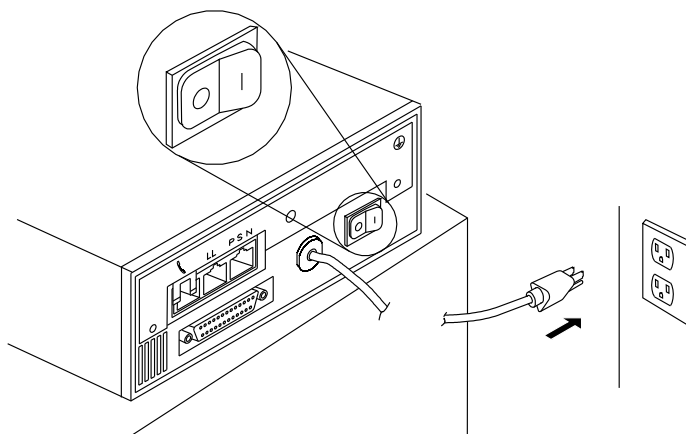

Figure 1-101. Connecting ac Power
1. ____ **Be sure** that the **power switch** located on the modem's rear panel is **off** as shown in Figure 1-101 on page 1-90.